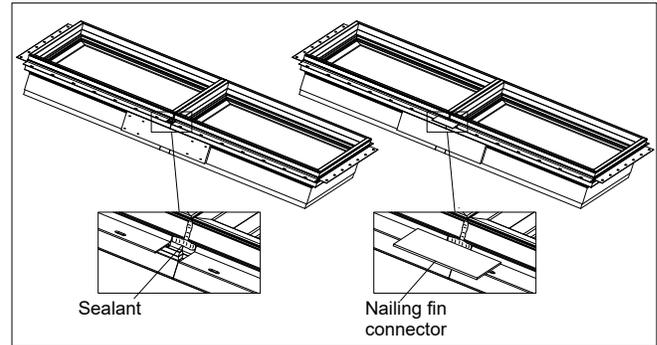

Figure 14
- Apply silicone sealant at the mullion from the frame exterior edge to the drip cap/nailing fin kerf and across the kerf over the mulling pin as shown in figure 14. Apply nailing fin connector at the head jamb, sill, and jambs by removing the paper backing from the connector and pressing into place. See figure 14. If applicable, jamb extension can now be applied. Follow installation instructions for installing unit into rough or masonry opening. Interior mull trim should only be applied after unit is completely installed and interior trim is applied.